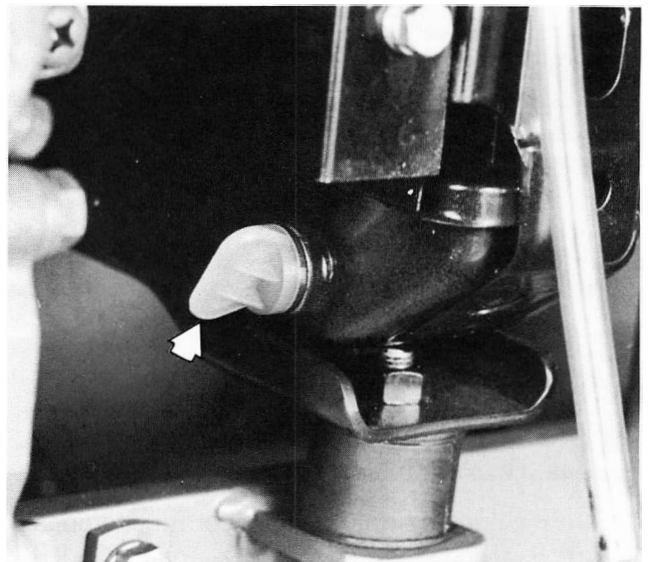
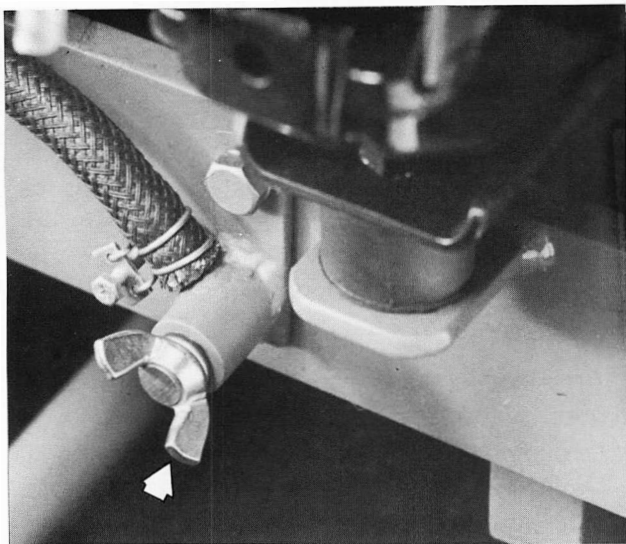

Figure 46 — Radiator Drain Valve
Figure 47 – Engine Block Drain Valve
1. Remove the radiator cap and open the drain valve at both the radiator and the engine block. The radiator drain valve is located on the bottom right side of the radiator, Figure 46. The engine block drain valve is located on the right side of the front-axle support, below the radiator, Figure 47.